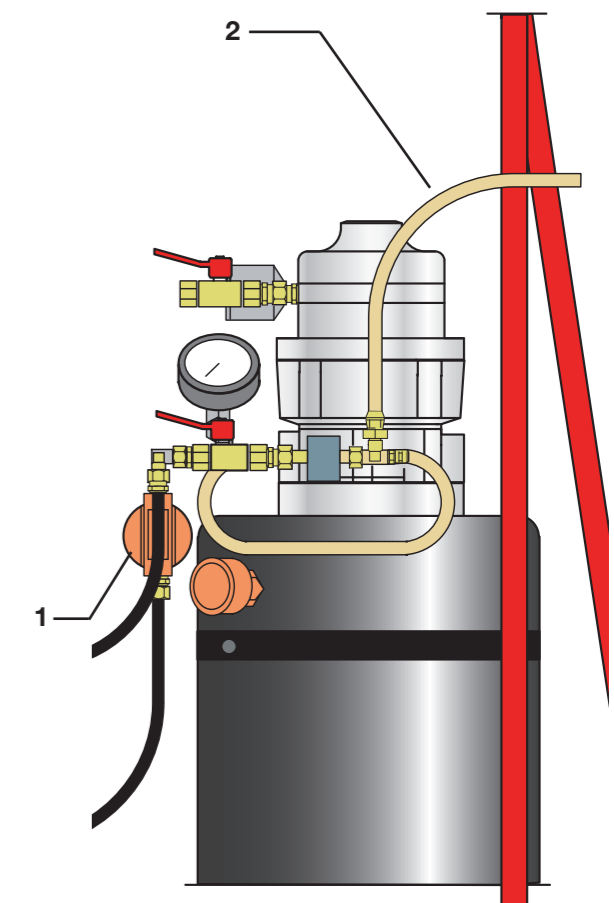

Figure 21:
10.5 Oil filling unit (Fig. 21)